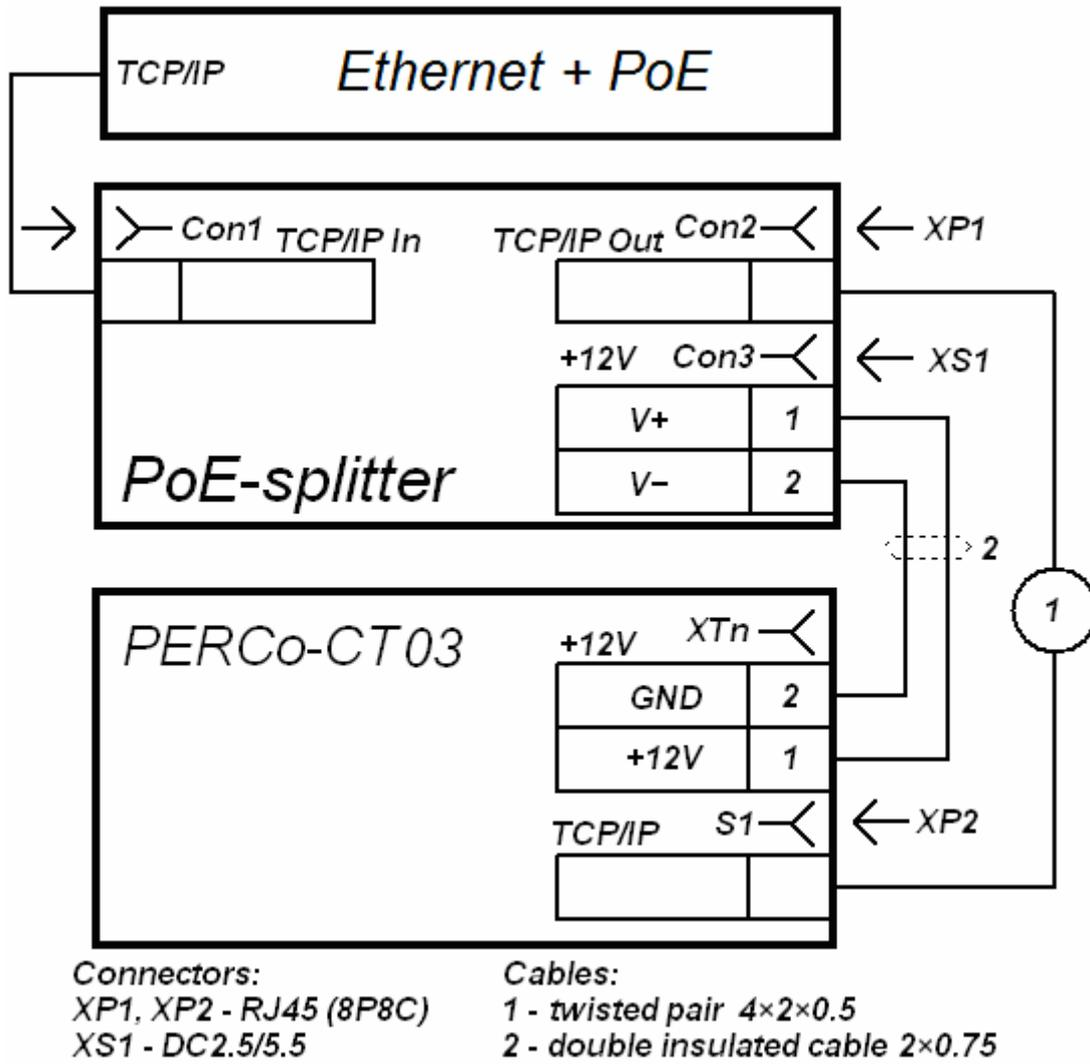

Figure 15. IP-Stile controller connection scheme
3. Connect power supply circuit of controller and operating device, controlled by it, to **Con3** connector of splitter. Connection schemes are given on Figure 15. IP-Stile controller connection scheme. (connection plug is included into delivery set of splitter).